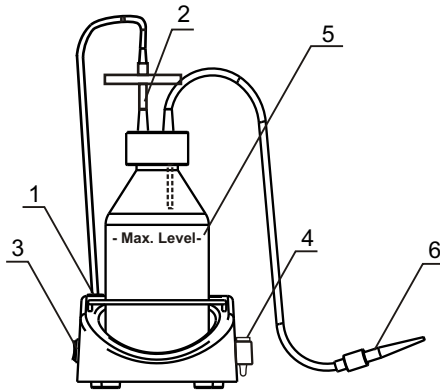
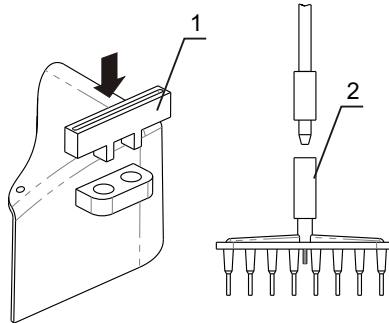

Fig.1 Assembled unit
Fig.2 Optional aspiration tip MA-8 installation
-  Do not allow the collected buffer level to exceed the max. level (see Figure 1/5). Empty the trap flask when the liquid level reaches maximum. Take necessary precautions utilizing waste liquid in accordance with general laboratory standards.
- screw the tube coming out from the filter to the socket connector of the pump (Fig.1/1) located on top of the unit (turning clockwise);
- ensure that the filter is tightly inserted in the socket (Fig.1/2);
- place the tube into a holder (fig.1/4) situated at FTA-1 right hand side.
- remove tubes from the holder situated at FTA-1 right hand side (fig.1/4);
- place MA-8 storing holder (fig.1/1) into the holder (fig.2/↓);
- remove standard aspiration tip from the inlet tube (fig.1/6) and connect the aspiration tip MA-8 (fig.2/2);
- 4.2. Switch ON the unit with the Power switch on the side surface (fig.1/3).
- 4.4. To wash or store the aspiration tip, use the holder (fig.1/4) situated at FTA-1 right hand side. Holder designed for 2 tubes (e.g. for hydrochloric acid solution and distillate).
-  **Caution!** During operation do not allow the collected buffer level to exceed the max. level (see Figure 1/5). Empty the trap flask when the liquid level reaches maximum (according to p. 4.6).
- 4.5. At the end of operation switch OFF the Power switch (fig. 1/3) and disconnect the external power supply from the mains outlet.
Filter replacement (Fig.1/2). Disconnect the inlet and outlet tubes from the filter, remove the filter, insert a new filter into the socket and tighten it.